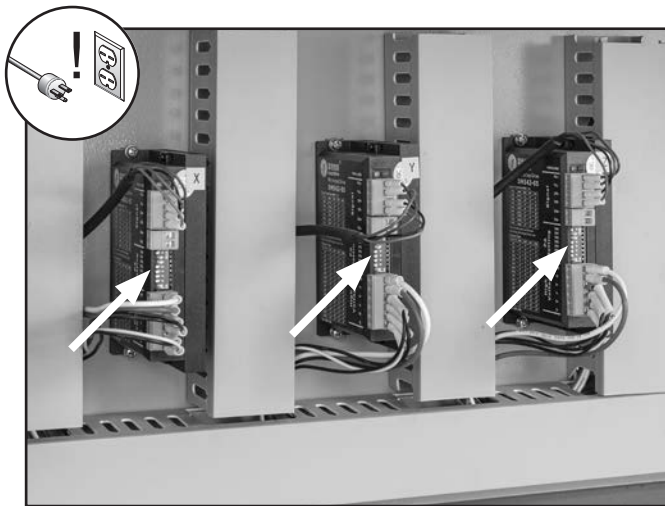

Figure 48. Stepper driver DIP switch locations.
2. Open electrical cabinet and locate (3) stepper driver DIP switches (see **Figure 48**).